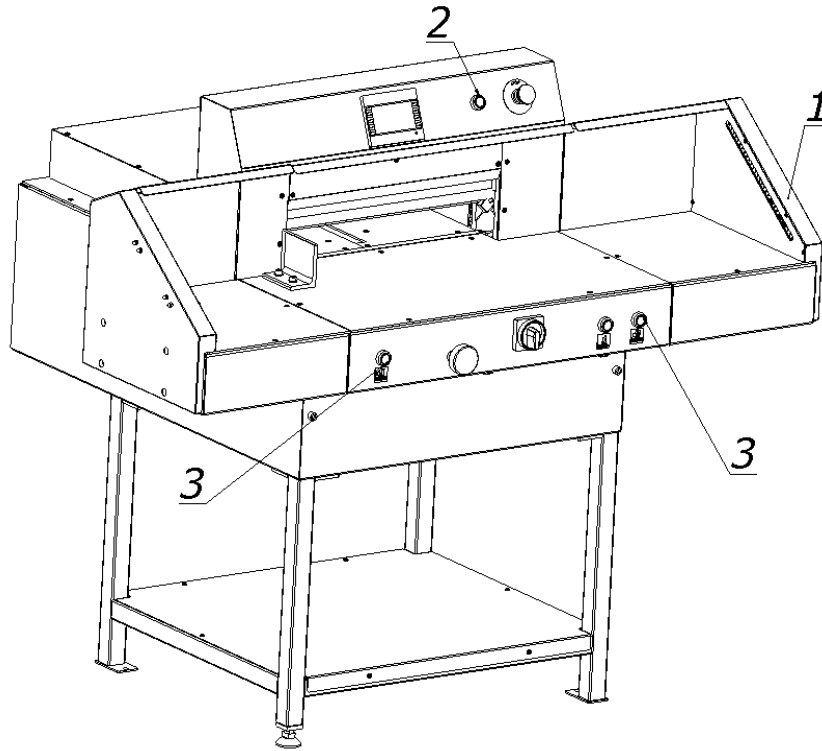

Fig. 19. Operating and signaling elements used during cutting.
1. There is no object in the work area of the light barrier - the green OSSD 1 LED lights up (Fig.11) on the receiver 1 (Fig.19).